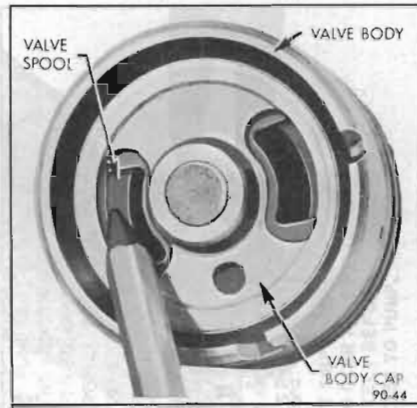
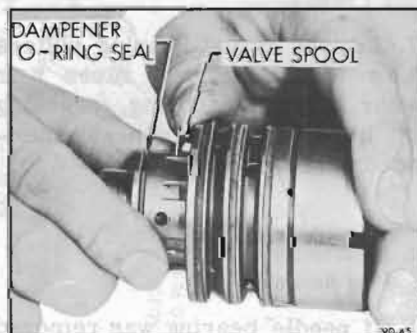

Figure 90-38—Separating Valve Spool from Valve Body
Figure 90-40—Withdrawing Valve Spool from Valve Body
3. Remove the valve spool by holding the valve assembly in one hand with the stub shaft pointing downward. Insert the end of a pencil or wood rod through the opening in the valve body cap and lightly push on the valve spool until it is far enough out of the valve body to be withdrawn. See Figure 90-38. Withdraw the spool with a steady rotating pull to prevent jamming. See Figure 90-40. If slight sticking occurs, make a gentle attempt to reverse the withdrawal procedure. If this does not free spool, it has become cocked in the valve body bore. Do not attempt to force the spool in or out if it becomes cocked, but continue with the following step.